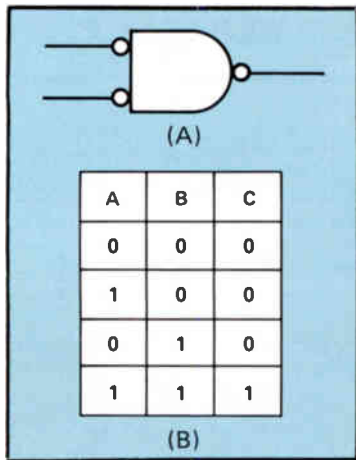

Figure 32. (A) The schematic symbol for a negative logic AND gate, and (B) the truth table.
The schematic symbol for a negative logic AND gate is shown in Fig.32(A). Figure 32(B) is the truth table for the negative logic AND gate. Notice that the truth table is the same as the truth table for the positive logic AND gate. Regardless of whether positive or negative logic is being used, to get a binary 1 in the output of the AND gate you must have a binary 1 at both inputs. The circuits for the two gates will be different, but they perform the same function.